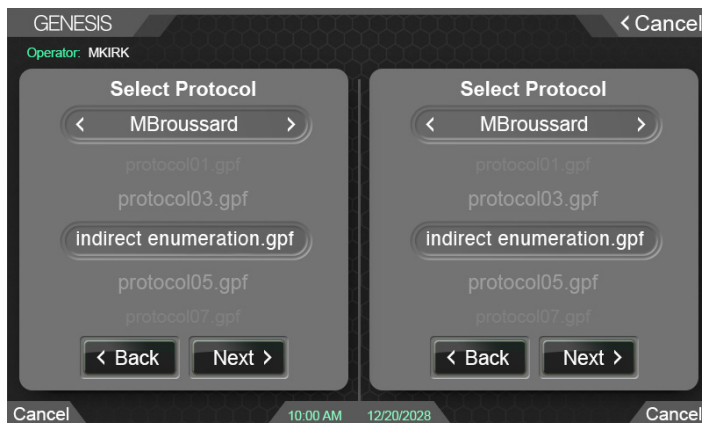

Fig. 19. After a successful Self Test, the protocols can be selected.
- When the Self Test is complete, select **2.0 Kit Indirect Enumeration** from the Select Protocol options (Figure 19).